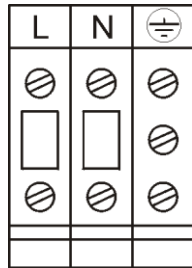

Figure 10. LP 5/6-11U: 120Vac Input terminals
1. Connect the utility supply wires to terminals L, N and GND (equipment grounding conductor). See figure 10. Ground connection is essential!